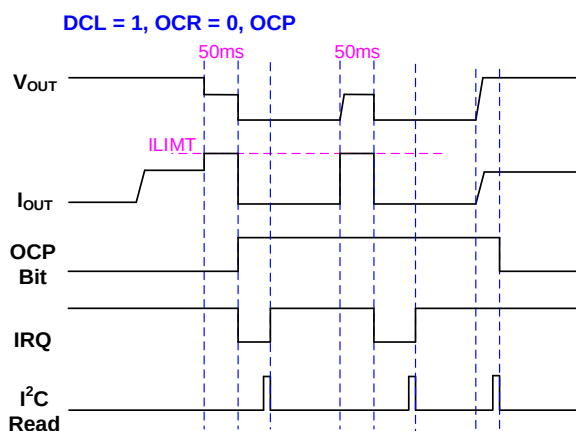

Figure 5: Dynamic OCP with Automatic Recovery
If an over-current (OC) condition occurs in dynamic protection mode, V_{OUT} is shut down and the OCP bit is set to 1 after 50ms. At the same time, IRQ pulls low. After a 1.8s interval timer, the MP8128 restarts with a 50ms timer if OCR bit is set to 0. If V_{OUT} can recover within this 50ms, normal operation resumes. After OCP recovery, the OCP bit can be set to 0 by one I²C read cycle. In dynamic OCP, the V_{LINE} bits stay at their original value for recovery (see Figure 5).